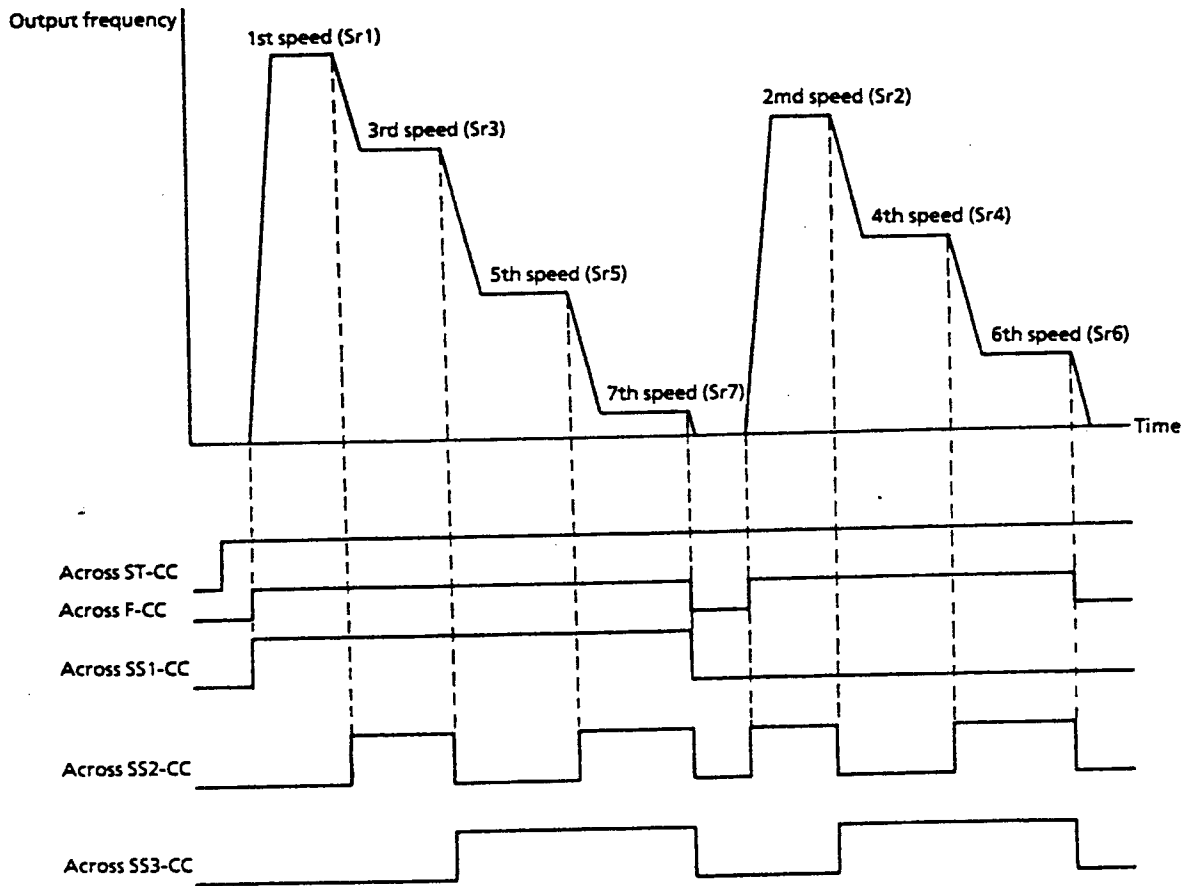

Figure 3.22 Timing chart showing multispeed run
- 5) Figure 3.22 shows an example timing chart for a multispeed run operation.